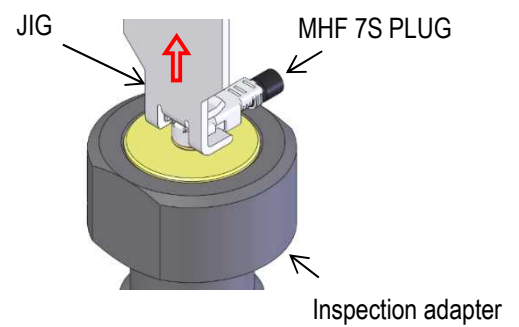

Fig. 5 ③ Pull up the PLUG vertically
- ③ In withdrawal, pull upward the PLUG vertically as shown in Fig. 5. (Using JIG, Part No. 91186-0001, for withdrawal is recommended.)